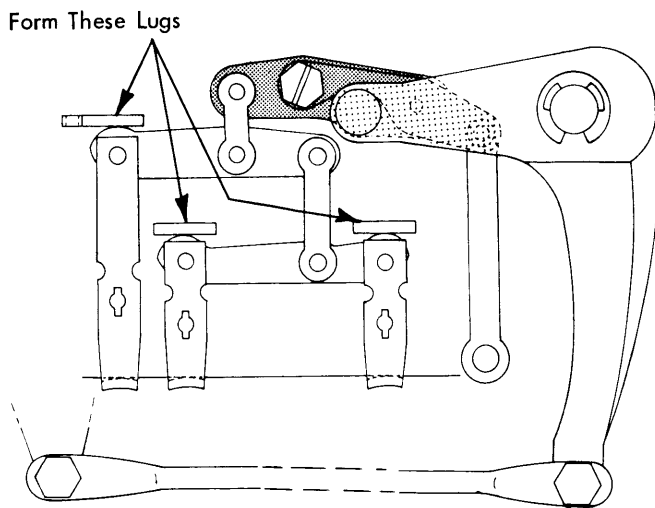

FIGURE 52. Rotate Selector Latches
- a. Form the stop lugs above the positive rotate selector latches (Fig. 52) so that the latches will reset simultaneously (under the latch bail) just as the cycle clutch check pawl drops into the notch on the check ratchet at the rest position.